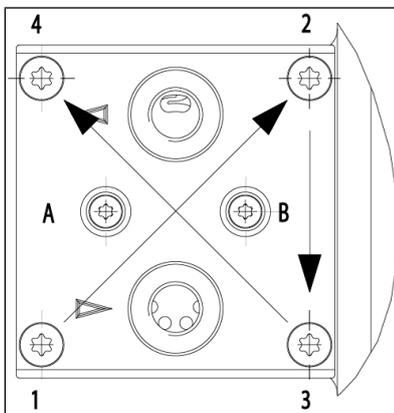

Fig.6 Tightening cap head screws
1. Remove the valve plates/seals (12) from the intermediate plate (6).
2. Check the valve seats, intermediate plate (6) and head plate (5) for soiling and damage. Clean the parts if necessary.
4. Insert the new valve plates/seals (12) in the valve seats of the intermediate plates (6).
5. Place the head plate (5) on the intermediate plate according to the felt-tip pen marking.
6. Check the centering of the head plate (5) by means of a slight lateral movement.
7. Connect head plate (5) and intermediate plate (6). To do this, screw in screws (3; Fig. 6: A + B) with disc spring (11) and shim rings (10) until the screw head is seated flat, i.e., until the first resistance is encountered. Apply a small amount of thread locker (Loctite 222 or comparable product) to the threads of the screws.
2. Place the pressure plate (4) on the head plate according to the felt-tip pen marking.
3. Screw in the screws (1) with disc spring (11) and slightly tighten them crosswise in the order 1-2-3-4 (see Fig. 6) with 1 Nm.
5. Tighten the screws (1) with disc spring (11) crosswise in the order 1-2-3-4 (see Fig. 6). Tightening torque: 2.1 Nm.
6. Then tighten the screws (3; Fig. 6: A + B) another quarter turn (tightening torque: 30 Ncm) and mount the screw covers (2).